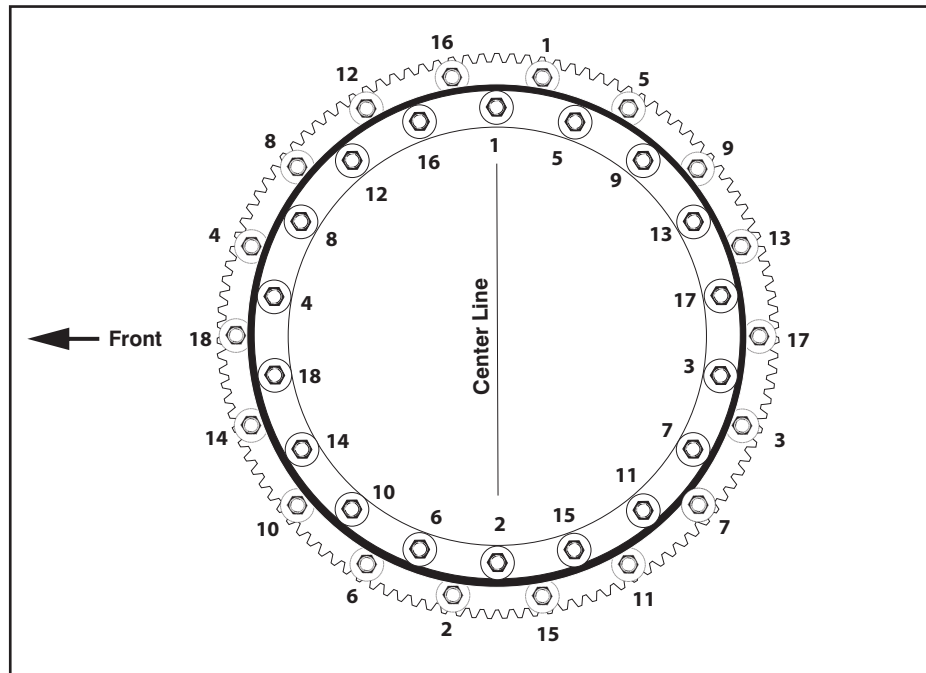

Figure 3-40. Swing Bearing Torque Sequence
3. See Figure 3-40. Swing Bearing Torque Sequence.